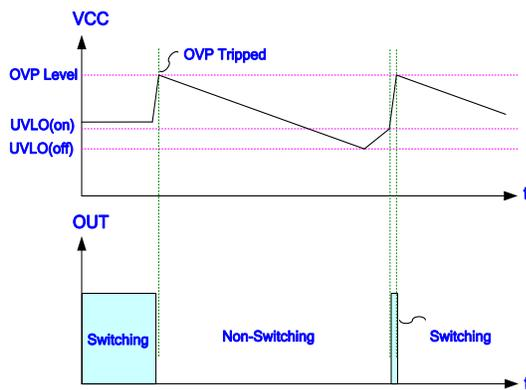

Fig. 19
LD5523D2 is implemented with OVP function through VCC. As the VCC voltage rises over the OVP threshold voltage, the output drive circuit will be shut off simultaneously thus to stop the switching of the power MOS until the next UVLO (ON) arrives. The VCC OVP function of LD5523D2 is an auto-recovery type. The Fig. 19 shows its auto recovery operation. That is, if the OVP condition is removed, it will resume to normal output voltage and VCC level in normal condition.